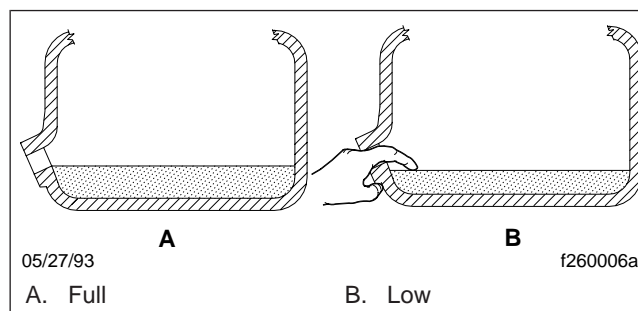

Fig. 3, Checking Transmission Oil Level
6. Add oil until it is level with the lower edge of the fill opening. If the transmission has two fill openings, add oil to the level of both openings. See **Fig. 3**. See **Table 1** for transmission lubricant capacities, and see **Table 2** for approved transmission lubricants.